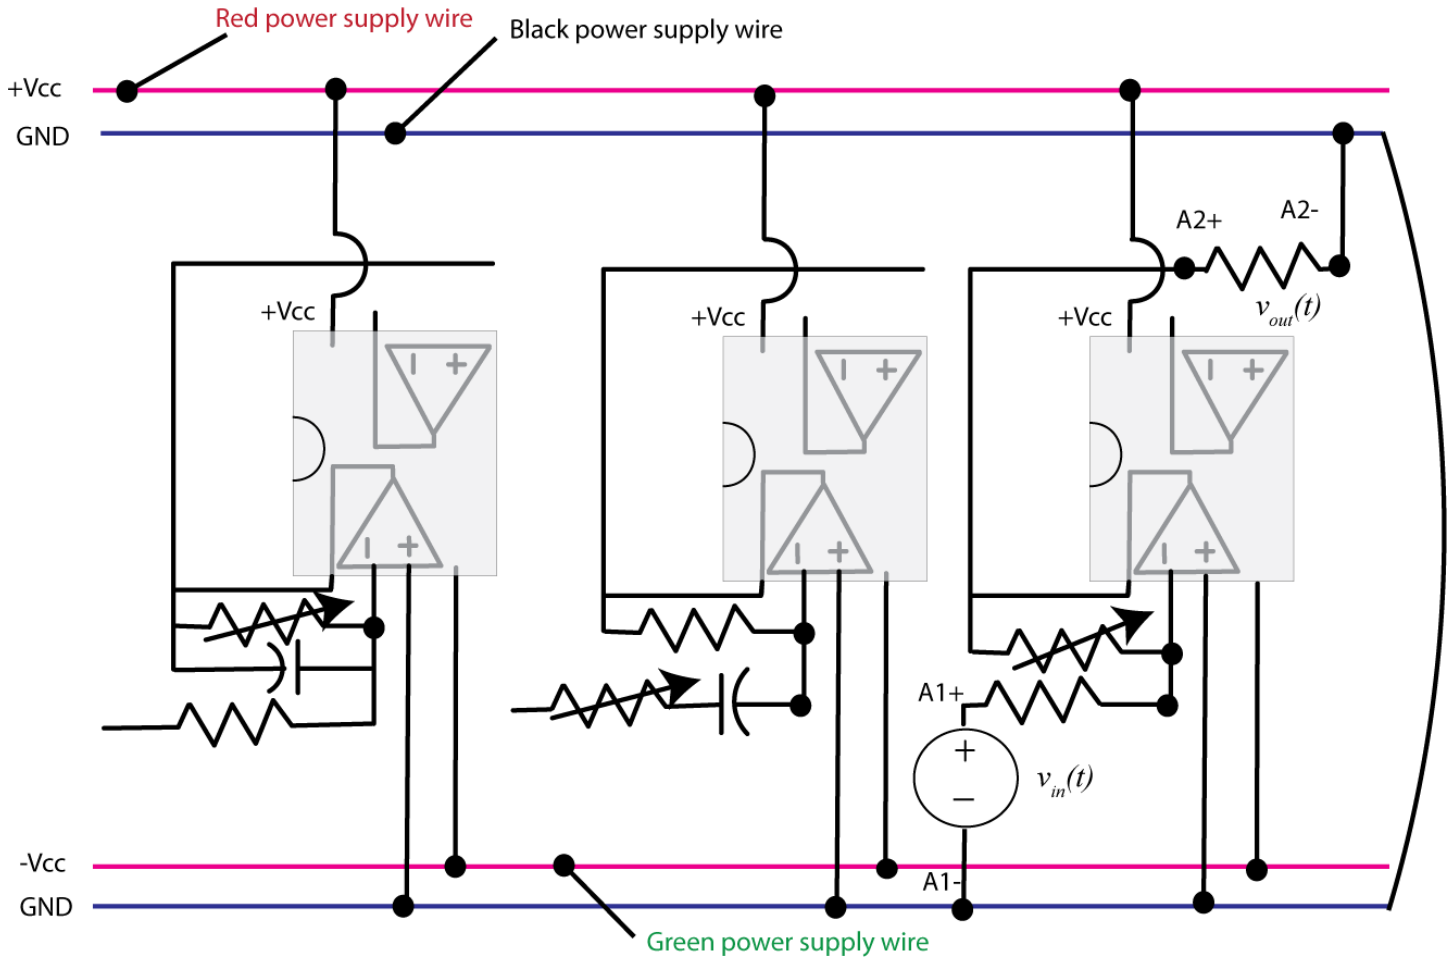

Figure 6. Lowpass, highpass, and all pass subsystems.
5) Construct the gain subsystem, as shown in Figure 6. Adjust the variable resistor so that for an input sine wave with a 1 volt amplitude at 500 Hz, the output has a 1 volt amplitude (or as close to this as you can get it).